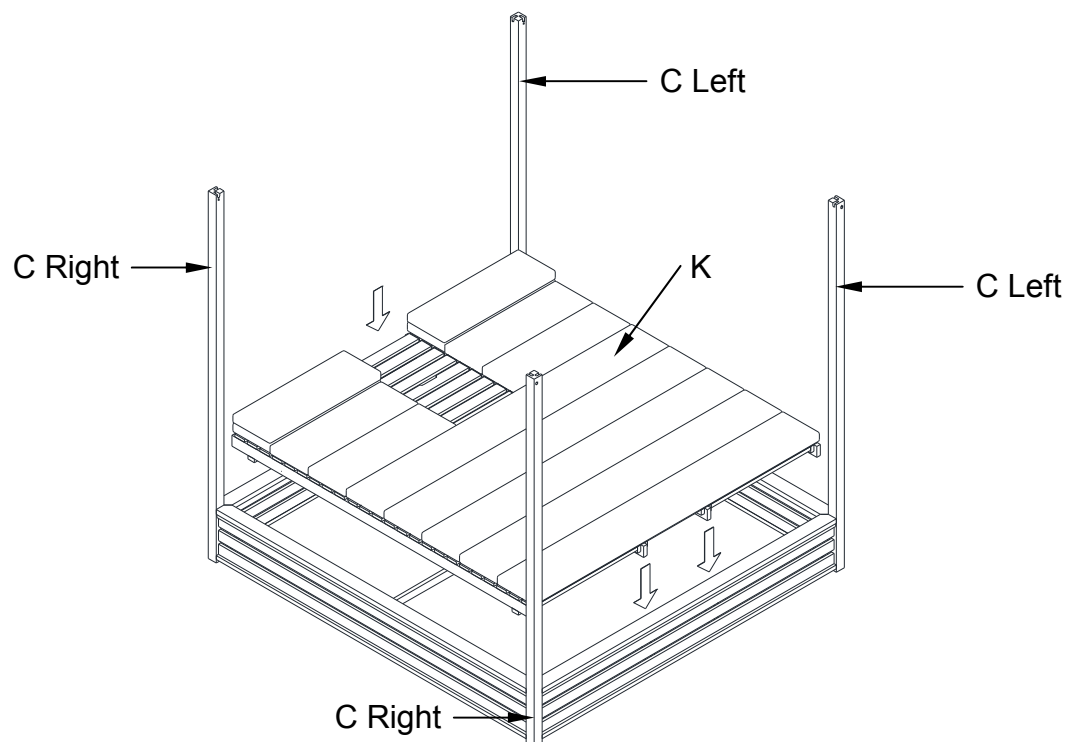

Fig. 6
6. Lay the Main Frame (G) and the Cushion (K) as shown on Fig. 6